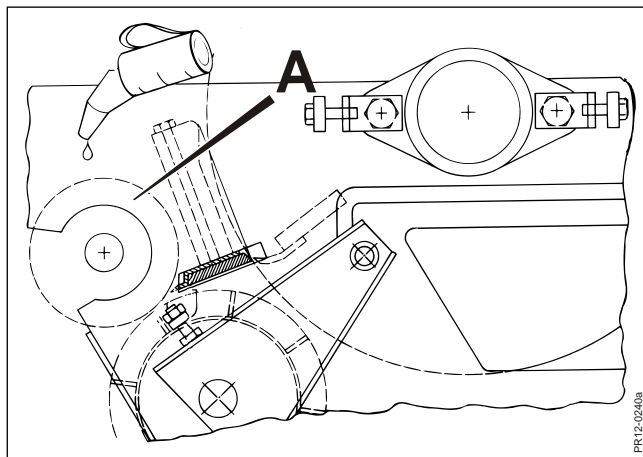

Fig. 7-7
**Fig. 7-7** The rear upper feed roller, the smooth roller **A**, should be protected from the formation of rust on the surface. The entire surface should be lubricated with a thin layer of oil if the machine is not in use for a period of more than one day.